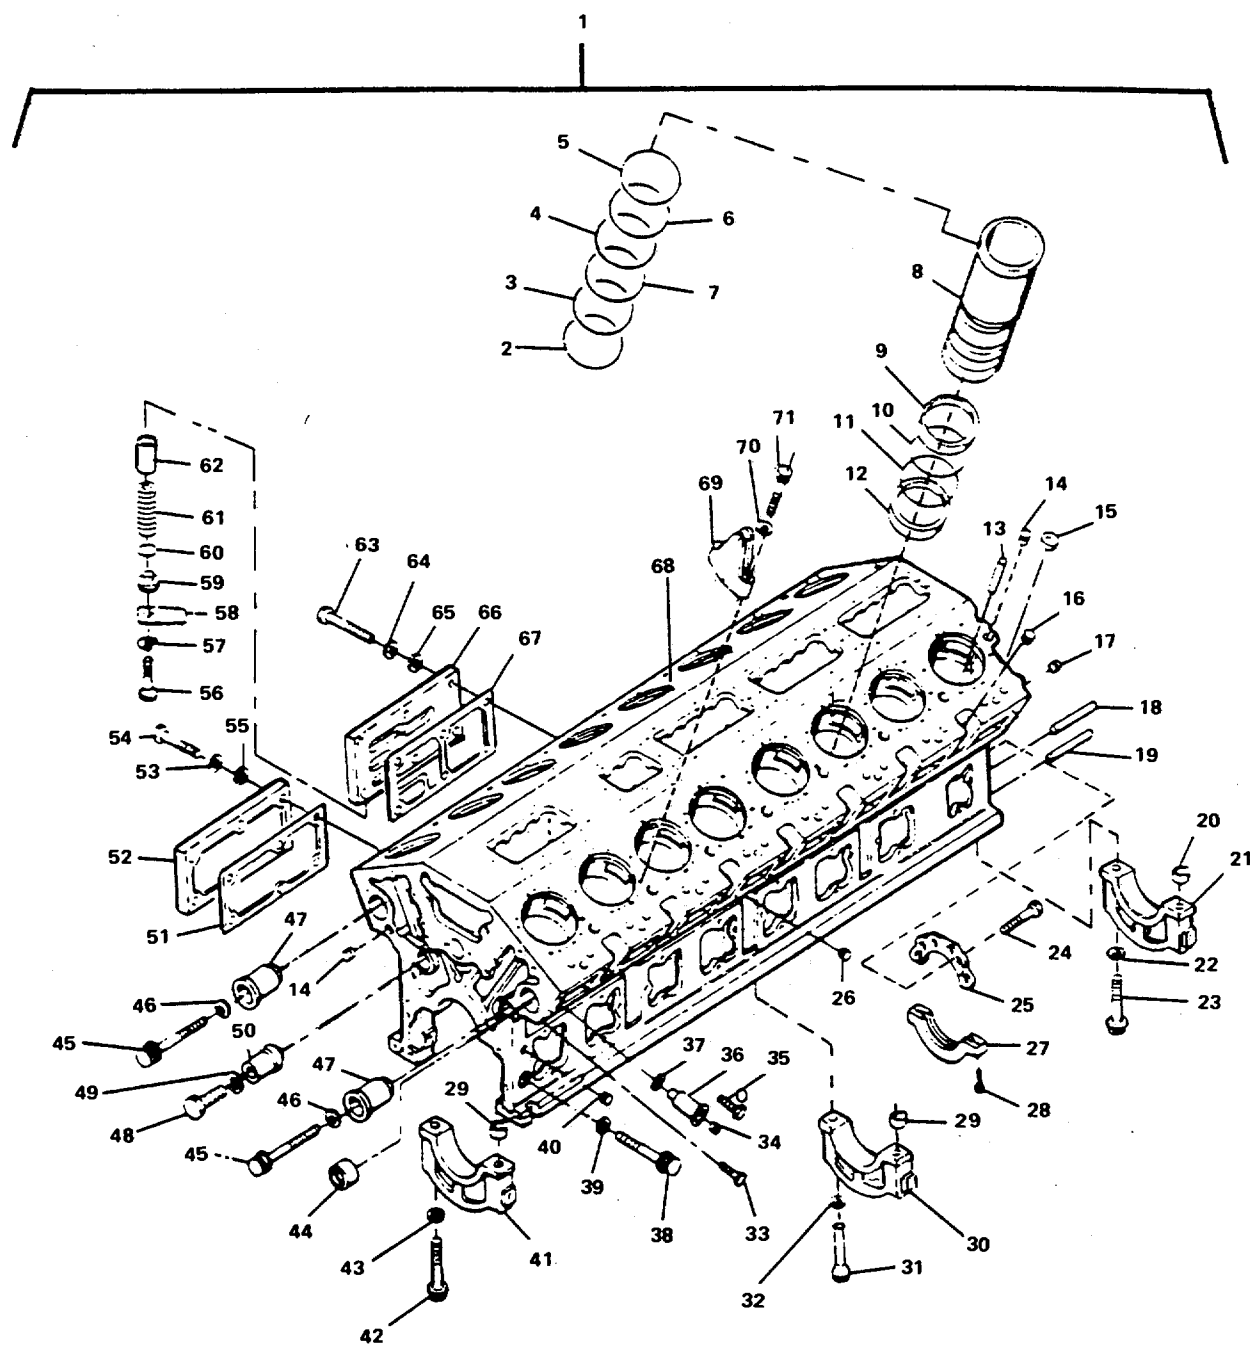
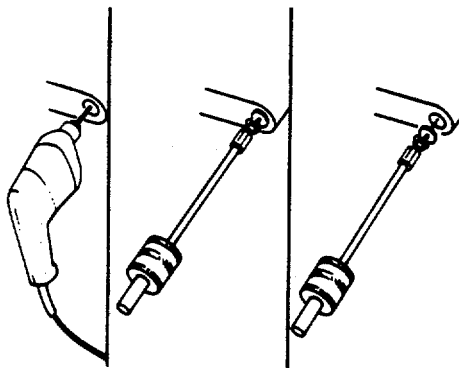
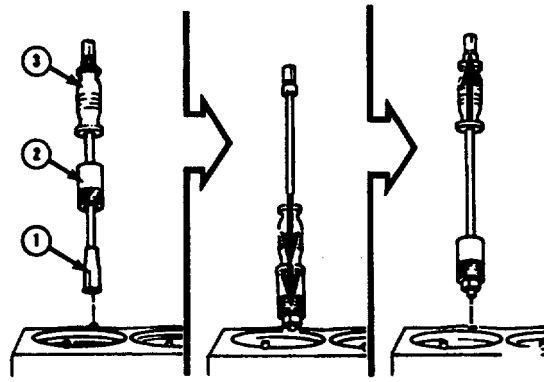

FIGURE 4-75. Cylinder Block Assembly.
FIGURE 4-78. Expansion Plug/Shield Removal.
FIGURE 4-79. Dowel Removal.
- b. Remove components from cylinder block (1, FIG. 4-75). Refer to procedures in chapters 2, 3, and 4.
- (1) Remove machine bolts (63, FIG. 4-75), lockwasher (64) and washer (65).
- (2) Remove piston cooling regulator (66) and gasket (67). Discard gasket.
- (3) Remove machine bolts (54), lockwasher (53), and washer (55).
- (4) Remove oil jumper cover (52) and gasket (51). Discard gasket.
- (4) Remove water pump shaft (50, FIG. 4-75).
- (4) Install puller in cylinder liner.
- (5) Turn puller screw (4) until liner loosens in block. Remove tool and cylinder liner (8, FIG. 4-75).
- (6) Remove shims (2 through 7), preformed packing (10 and 11), plain seal (12), and special ring (9).
- (1) Use a drill, metal screw and slide hammer and hook from the light duty puller kit (FIG. 4-78) to remove expansion plug (15, FIG. 4-75) and expansion shields (14).
- (2) Remove dowels (13, 18, and 19) (FIG. 4-75). :-
- (a) Put split collet (1, FIG. 4-79) of dowel pin extractor over dowel.
- (b) Slide extractor collar (2) over split collar (1).
- (c) Use slide hammer (3) to push extractor collar (2) tightly over split collar (1).
- (3) Remove pipe plugs (16, 17, 26, FIG. 4-75) and drain cock (33).
- The engine contains two camshaft bushings (44, FIG. 4-75) in each bore except in the LB front and RB rear bores. These bores contain one bushing only.
- h. Check the head deck of the block (68, FIGURE 4-75) for wear using a precision straight edge. Verify no fretting is visible in areas when head gasket seal rings or grommets touch.